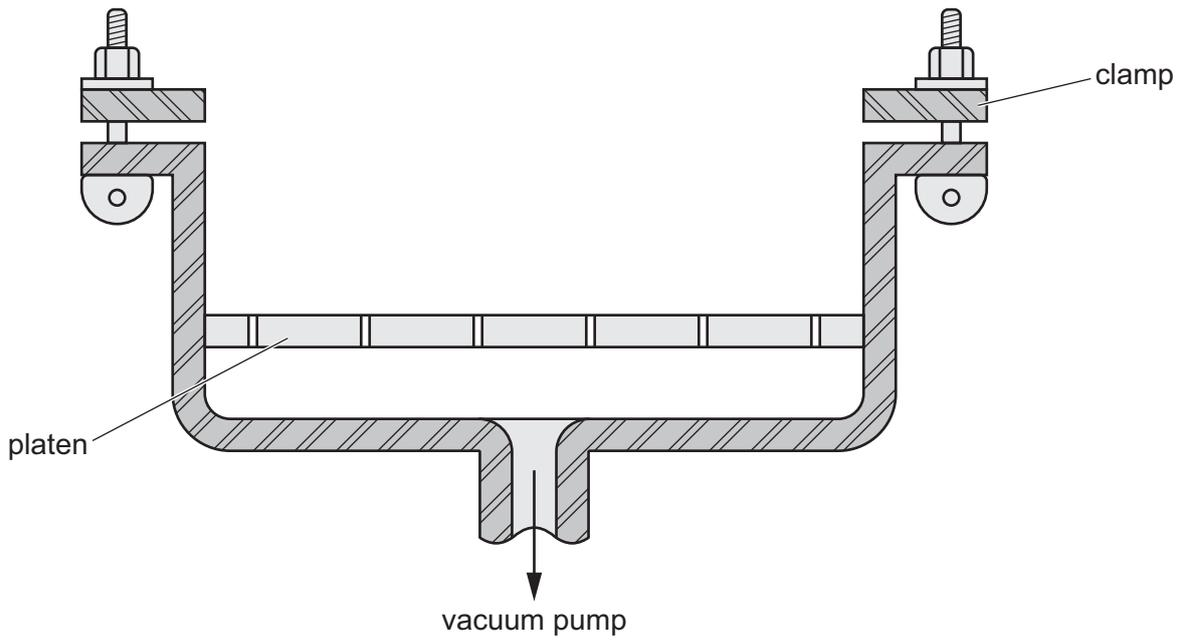

Fig. 11.7
- (ii) Fig. 11.7 shows a sectional view through part of a vacuum forming machine. Add sketches to Fig. 11.7 to show the mould, the heater and the plastic sheet in position ready to vacuum form one pan.